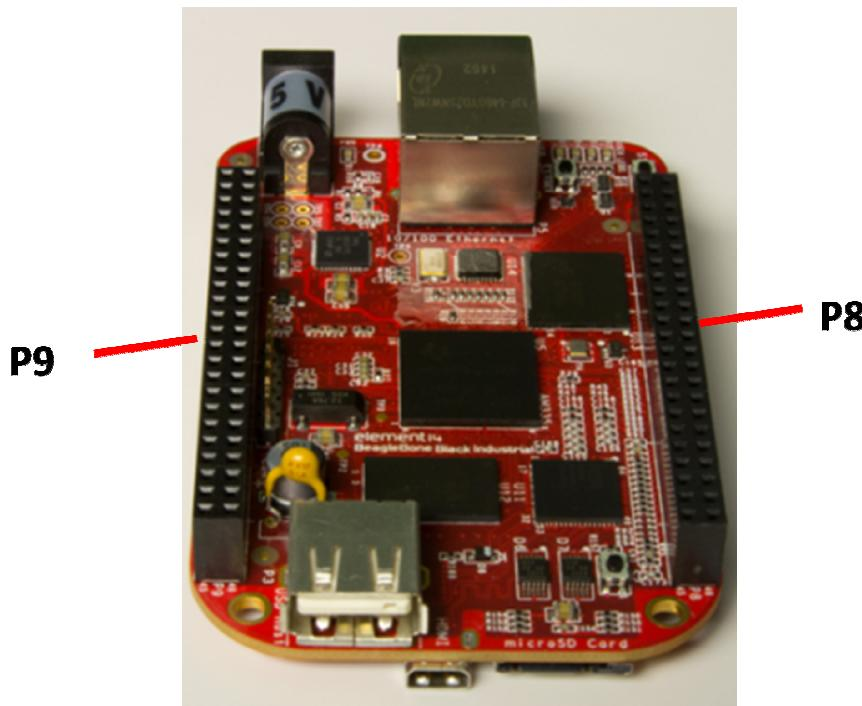

Figure 50 Expansion Connector Location
**Figure 50** shows the location of the expansion connectors.